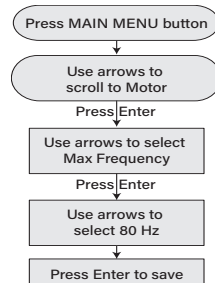

Figure 11 - Select 80 Hz
- B. Follow the keypress sequence shown in Figure 11.
Press *Main Menu* and follow the keypress sequence shown in Figure 11. Be sure to press *ENTER* to save the new *Max Frequency* selected. The Drive will now use the new value selected.